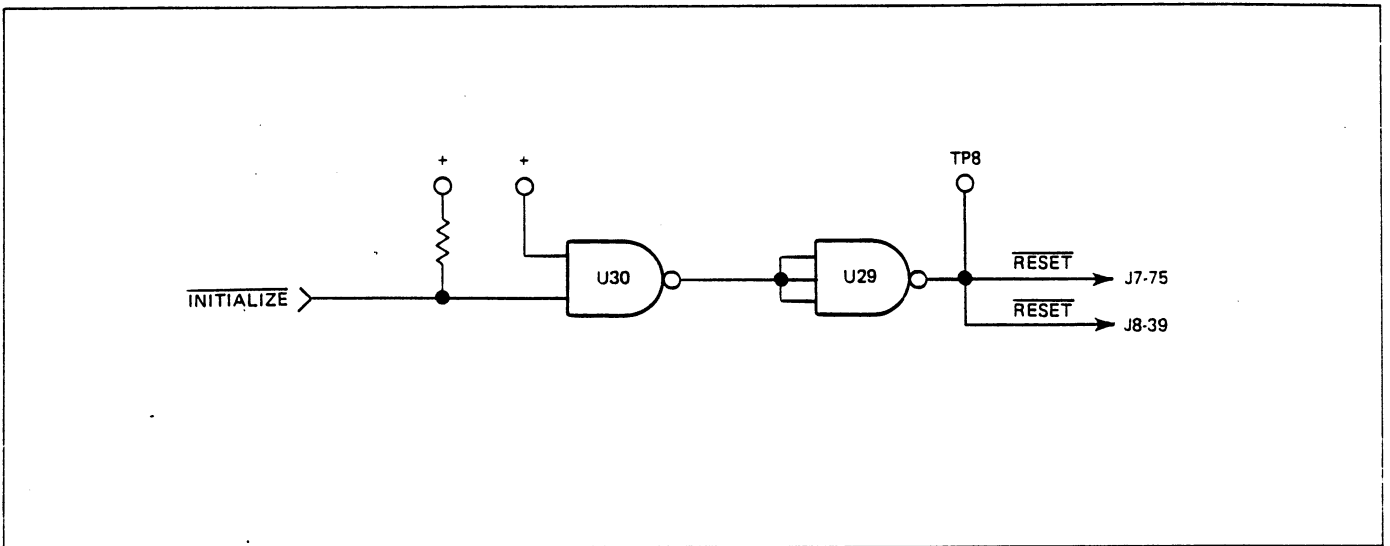

Figure 4.32 - Initialize Circuit
4.4.9.13 *Initialize.* The initialize circuit is shown in Figure 4.32. When power is applied to the instrument flip-flop U10 is forced into preset (Q high) and RESET is held low for a portion of the RC time constant by the R13, C1 circuit.